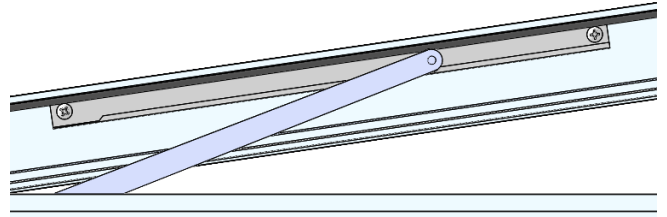

Figure D1:
2. On the underside of the vent, remove the (2x) Phillips screws from the track(s). Slide the track off of the operator (Figure D1).